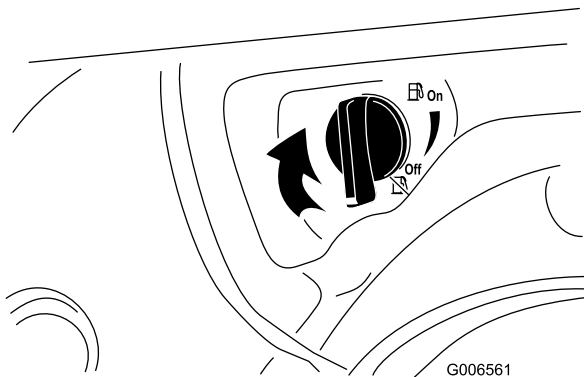

Figure 25
4. Close the fuel shutoff valve by rotating it clockwise (Figure 25).